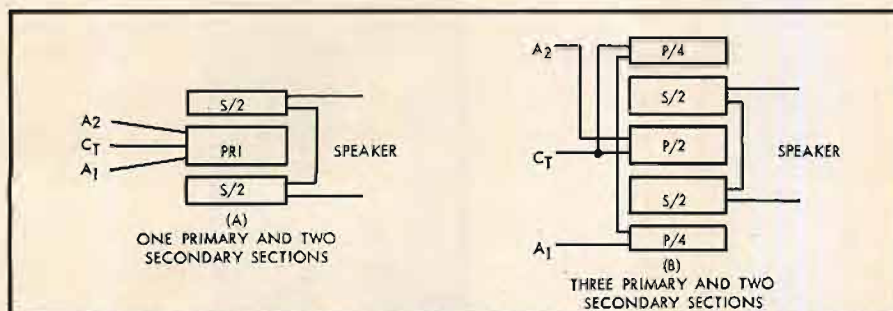

Fig. 13. Further subdivision of windings to reduce leakage reactance.
of sub-division may be carried still further, both primary and secondary windings being sub-divided into sections and interleaved. Some typical arrangements are shown in Fig. 13. That of (B) has particular advantage in push-pull circuits in that the two half primaries can be made to have the same resistance by using P/4 and P/4 in series for one half primary, with P/2 for the other half. This also equalizes the leakage inductance from either half primary into the secondary.